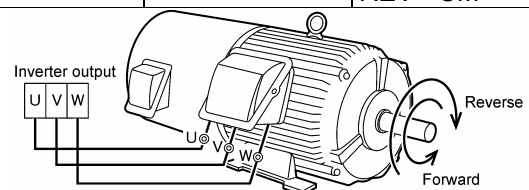

Figure 3-3-1 Motor Rotating Directions
- 1) the motor runs in the selected direction (see Figure 3-3-1),